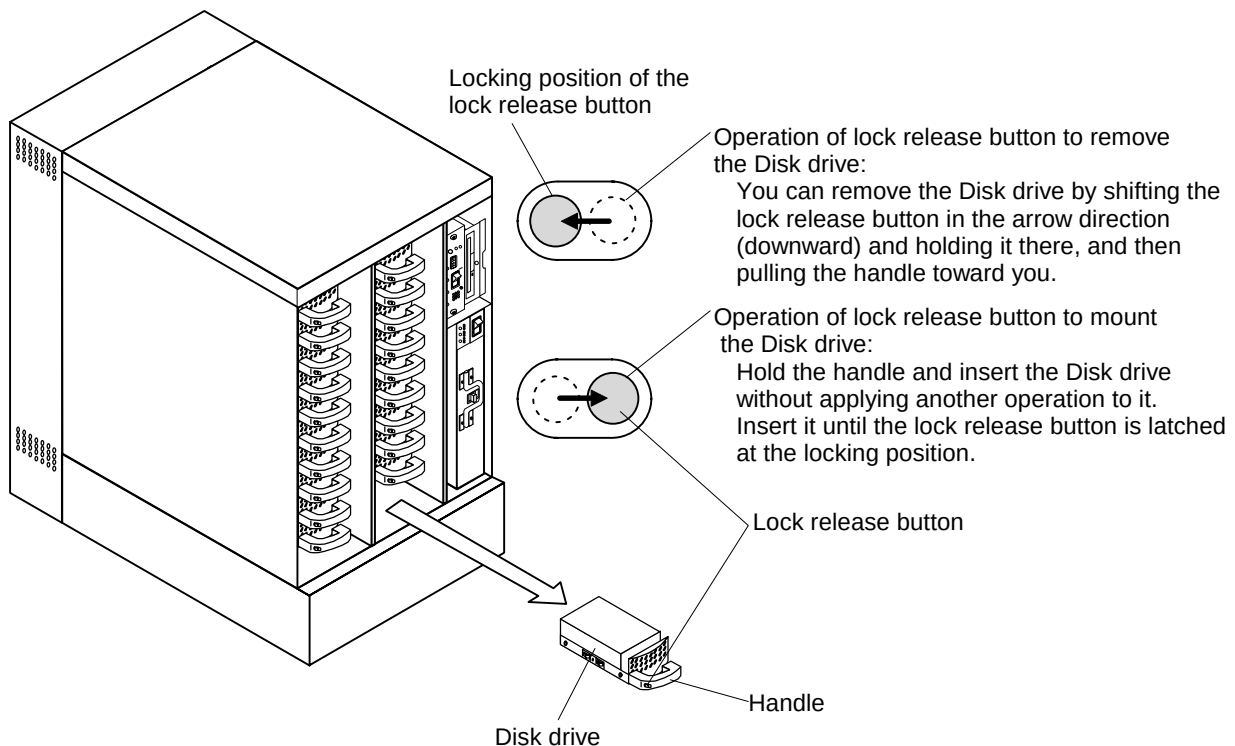

Figure 4.4.3 Operation of Lock Release Button of Disk Drive
- (e) Wait for more than 20 seconds, and then insert a new Disk drive taking care not to apply any shock to it. (See Figure 4.4.3.)
To replace Disk drive, refer to Figure 4.4.3.